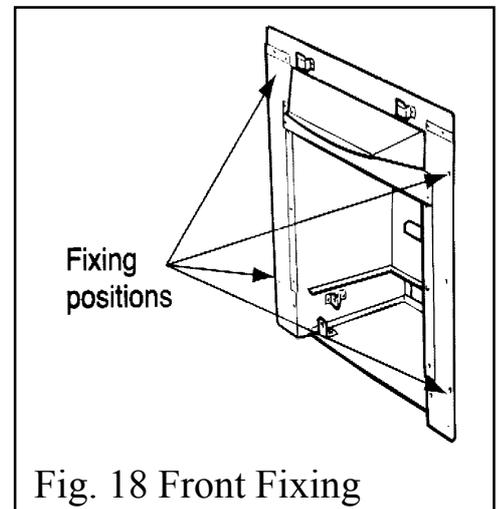

Fig. 18 Front Fixing
3. Mark the fireplace front surround through the four fixing holes in the side flanges of the convection box. See figure 18.